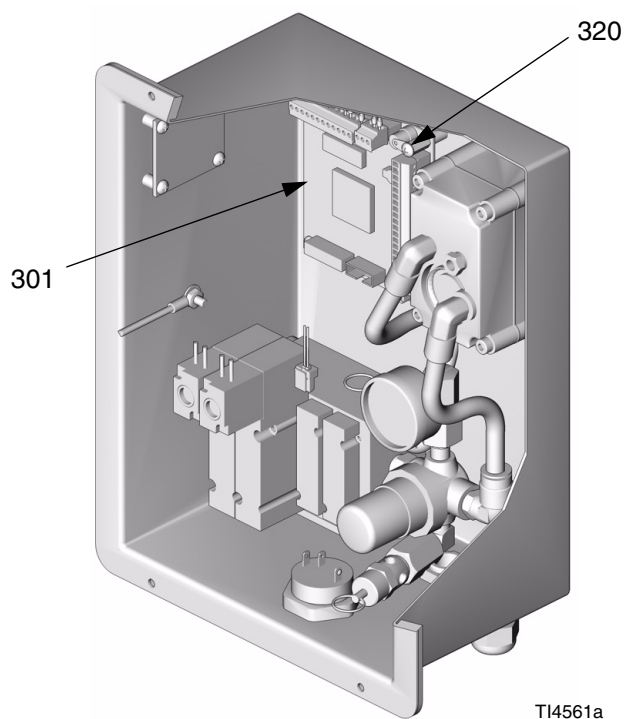

FIG. 3
2. Disconnect all wire connectors from board (301). FIG. 3.
3. Remove four screws (302) and replace board (301).